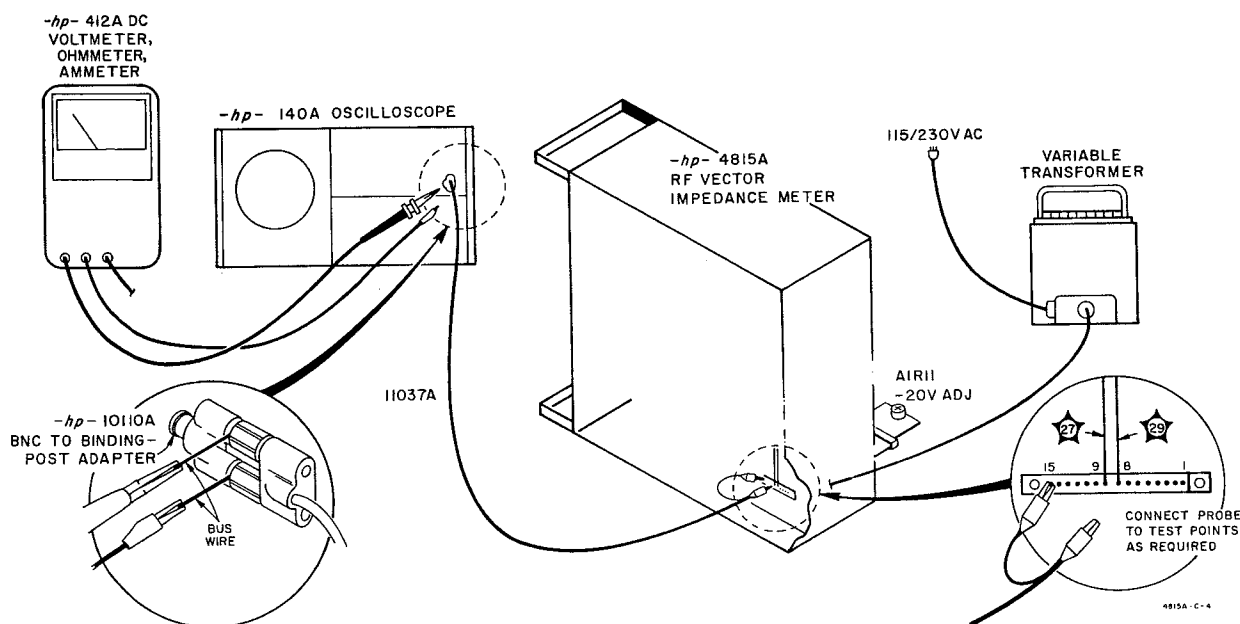

Figure 5-5. Setup for Power Supply Check
- a. Remove top and bottom cover plates. Rest 4815A on left side and make connections as shown in Figure 5-5.
- c. Connect DC Voltmeter and Oscilloscope to -20 V \star XA1 (9).
- g. Connect DC Voltmeter and Oscilloscope to \star XA1 (8).